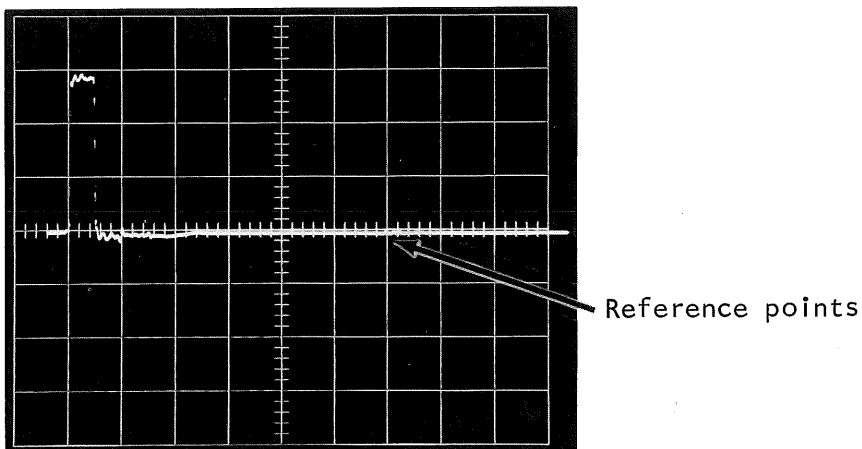

Figure 4-39
2. Pick a reference on the display and a reference on the graticule. See Figure 4-39.